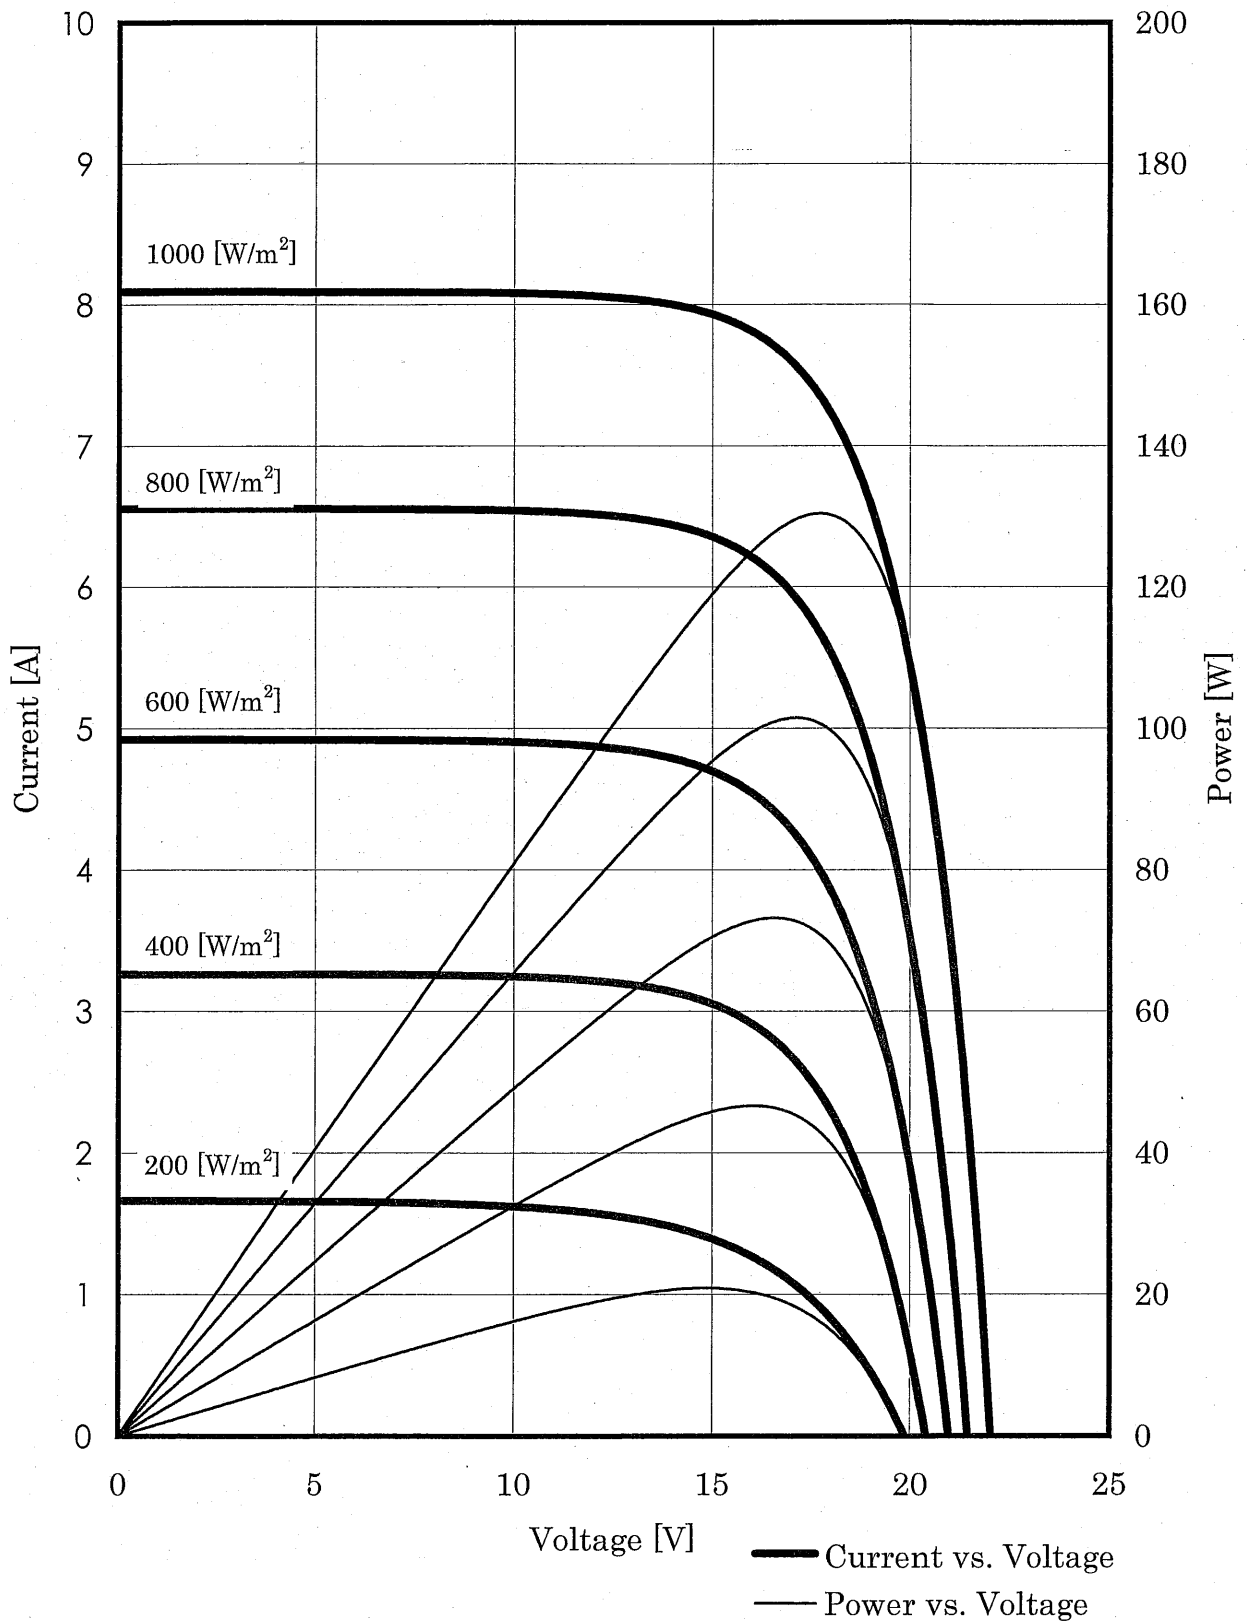

Fig. I -2 Current , Power , vs. Voltage Characteristics
- (2) Fig. I -2: Characteristics regarding Current and Power versus Voltage per Irradiance